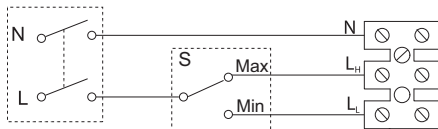

Fig. 3
- Connect the fan to the mains in accordance with the wiring diagram, Fig. 3.
- The fan can be set at different speeds, Fig. 3.  $L_H$  is the max. speed,  $L_L$  is the min. speed. A separate switch can also be fitted for speed adjustment. This is illustrated as S1 in Fig. 3.